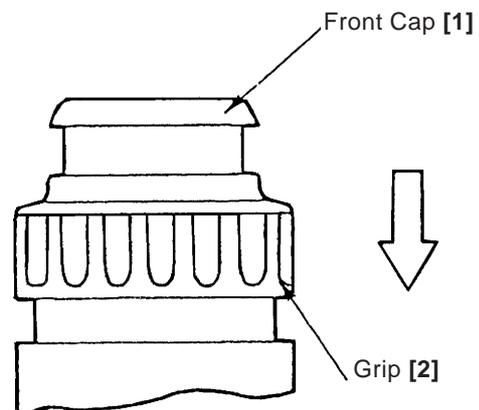

Fig. 4
- As shown in Fig. 4, slide the Grip [2] in the direction indicated by the arrow, and remove the Front Cap [1]. The Grip [2], the Ball Holder [3] inside the Grip, the Holder Spring [4], Washer (B) [5] and the Steel Ball [21] can then be removed from the Cylinder [23].